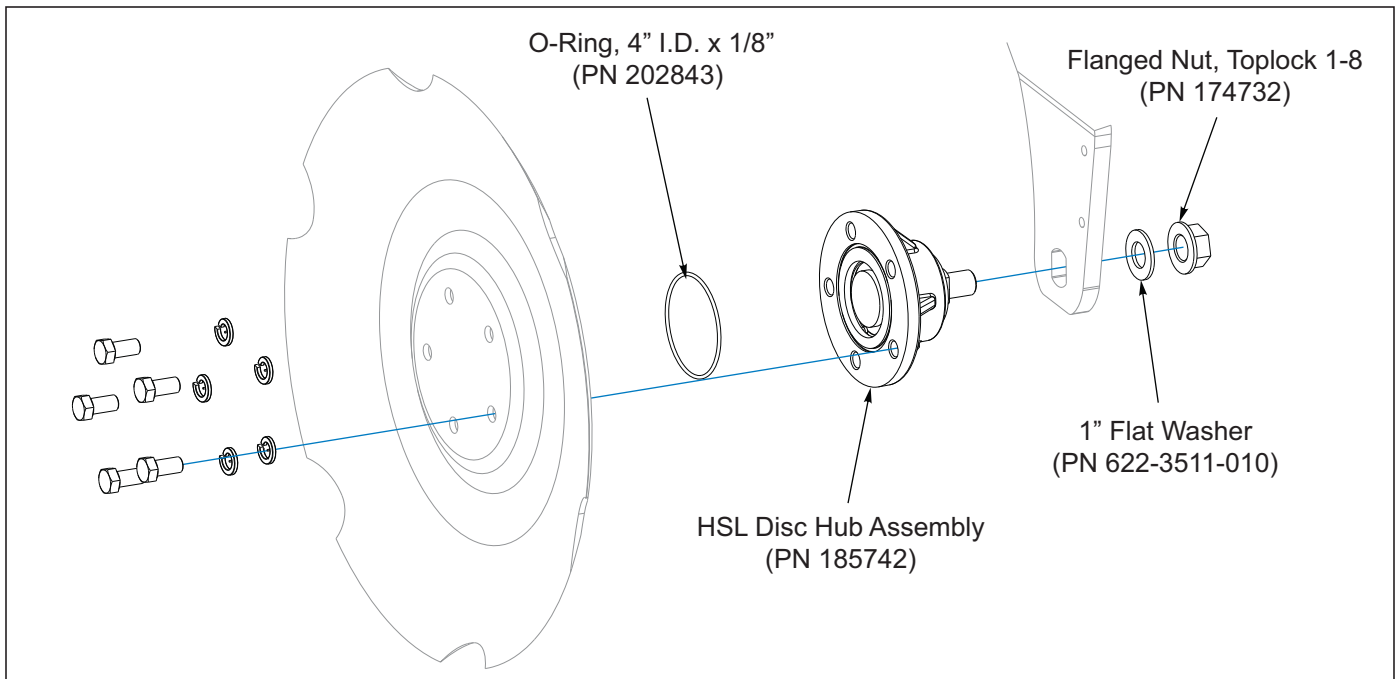

Figure 4-8: Disc Hub Bearing
1. The replacement hub and bearing assembly is available as a pre-assembled assembly, Landoll 210880 for your convenience. Should you choose, the wear parts are also available in a kit to re-build the disc hub. Landoll kit 219945 includes the essential wear parts to rebuild a disc hub in the field **See Figure 4-8**. When rebuilding disc hubs in the field it is highly recommended that you obtain a die, Landoll 218733, to assist in the proper assembly of the components in the hub assembly. Landoll Corporation will not accept responsibility for, or warranty hub assemblies re-built in the field.
1. The center cutout option of the 1911 Filloll features a maintenance free double tapered roller bearing in each disc hub (**Landoll Part No. 174526**). The maintenance free double tapered bearing is protected by a lifetime lubricated five lip seal (**Landoll Part No. 185757**) on the hub's spindle side *See Figure 4-8*. The joint between the disc blade and the hub face is sealed with an O-ring that is compressed in a groove in the hub and seals against the disk. Should it become necessary for a disc hub bearing to be replaced there are two options available.